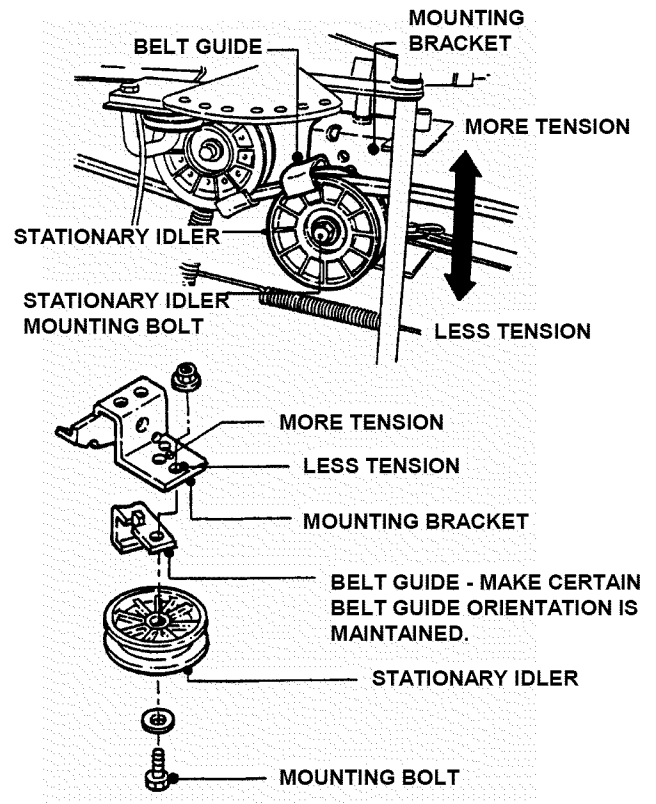

FIGURE 4.12
4. Remove the traction drive belt stationary idler mounting bolt. See Figure 4.12.
**NOTE:** Note the orientation of belt guide and make certain it remains in the same orientation after moving idler. Should less tension be required move stationary idler towards right side of tractor. See Figure 4.12.